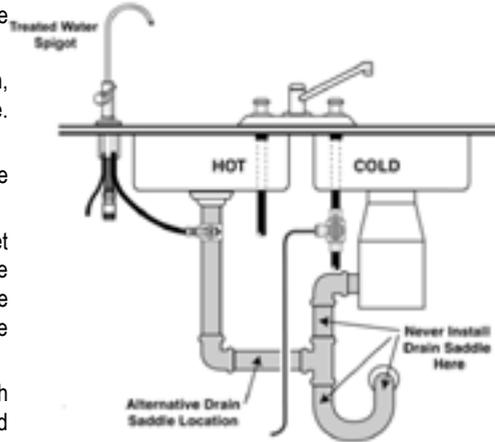

Figure 7: Drain Saddle Assembly Mounting Locations
**A.** Position the drain saddle in the desired location, mark the spot to be drilled, and remove the saddle. (See Figure 7).